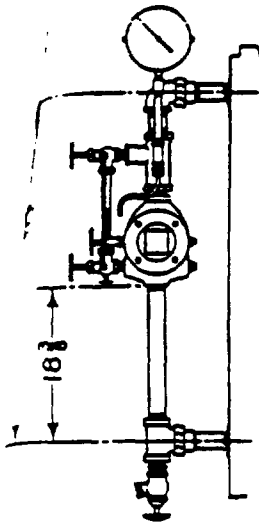
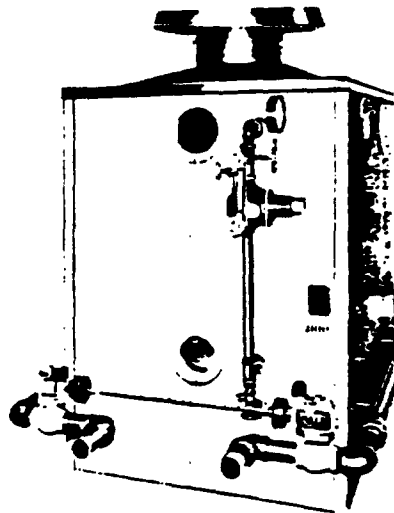

FIG. 21—Steam Trim
FIG. 22—Steam Trim Assembled
1. Remove and discard plug and dowel at top and bottom of low water cut-off. Assemble low water cut-off and water column piping as shown in Fig. 21 and attach to boiler as shown in Fig. 22. Make steam gage connection with nipple and tee to $\frac{1}{4}$ inch tapping on upper part of low water cut-off. Connect steam control element on automatic gas valve with steam gage tee using copper tubing and connectors. Fill tubing with water and screw steam gage into tee.